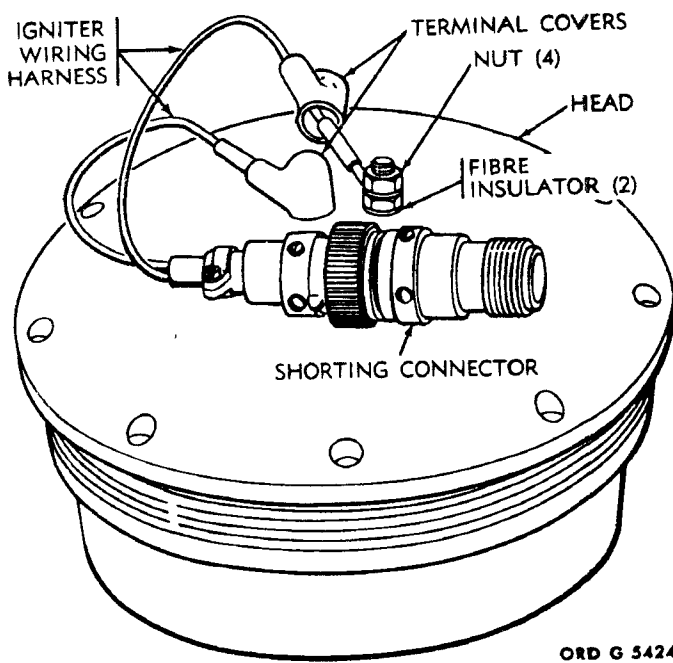

Figure 10-7. Inspection of the rocket motor igniter for corrosion.
a. Carefully examine each rocket motor igniter (fig. 10-7) for the presence of the shorting connector.